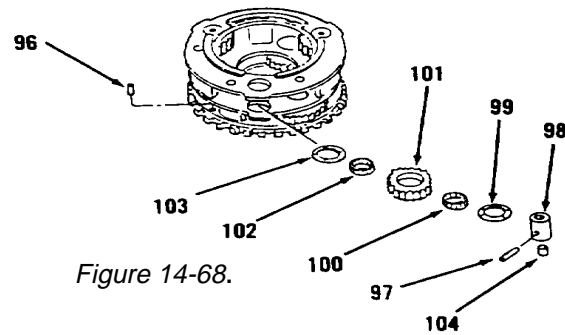

Figure 14-68.
7. Install three shafts (106) and new plugs (111), if removed, in carrier (112).
8. Install three washers (103), rollers (102), gears (101), rollers (100), washers (99) and shafts (98, Figure 14-68).